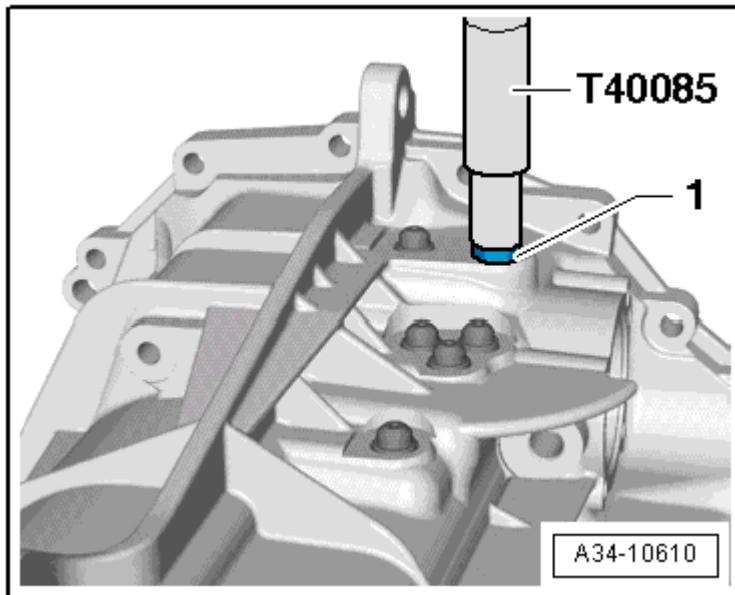

Fig. 55: Removing And Installing Large Locking Bushing -1- On Gearshift Shaft
- Removing and installing, refer to **Fig. 55**